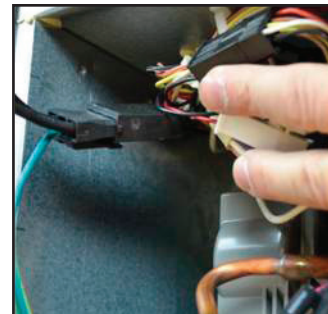

FIGURE 8
2. Position the main cabinet wiring harness out of the way to access the inverter. See *Figure 8*.